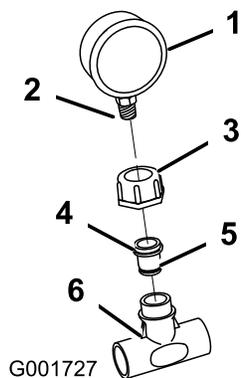

Figure 13
the pressure gauge. Use a hex wrench to screw the reducer assembly to the pressure gauge (Figure 13).
13. Install the pressure gauge assembly to the plastic tee (Figure 13).